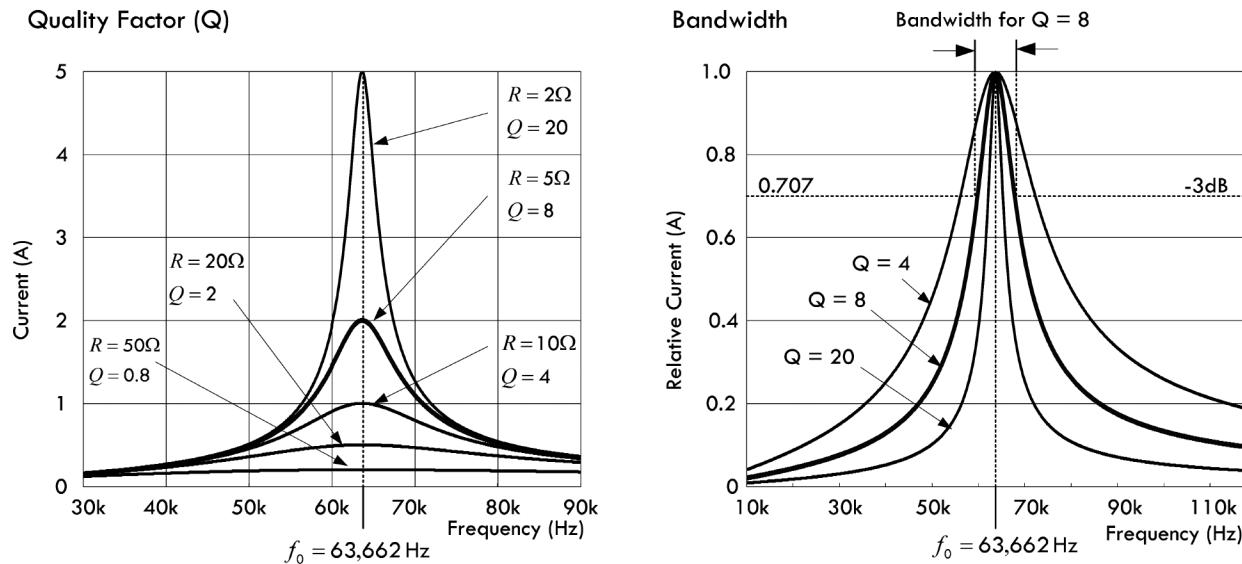

FIGURE 2.179
As mentioned earlier, the ratio of reactance or stored energy to resistance or consumed energy is by definition the quality factor Q . (Q is also referred to as the figure of merit, or multiplying factor.) As it turns out, within a series RLC circuit (where R is internal resistance of the components), the internal resistive losses within the inductor dominate energy consumption at high frequencies. This means the inductor Q largely determines the resonant circuit Q . Since the value of Q is independent of any external load to which the circuit might transfer power, we modify the resonant circuit Q , by calling it the unloaded Q or Q_u of the circuit. See Fig. 2.179.
As you can see, if we increase the resistance, the unloaded Q decreases, giving rise to broad current response curves about resonance, as shown in the graph in Fig. 2.179. With resistances of 10, 20, and 50Ω , the unloaded Q decreases to 4, 2, and 0.8, respectively. Conversely, if the resistance is made smaller, the unloaded Q increases, giving rise to a sharp current response curve about resonance. For example, when the resistance is lowered to 2Ω , the unloaded Q becomes 20.
An alternative way of expressing the sharpness of a series-resonant circuit is using what is called bandwidth. Basically, what we do is take the quality factor graph in Fig. 2.179 and convert it to the bandwidth graph in Fig. 2.179. This involves changing the current axis to a relative current axis and moving the family of curves for varying Q values up so that all have the same peak current. By assuming that the peak current of each curve is the same, the rate of change of current for various values of Q and the associated ratios of reactance to resistance are more easily compared. From the curves, you can see that lower Q circuits pass frequencies over a greater bandwidth of frequencies than circuits with a higher Q . For the purpose of comparing tuned circuits, bandwidth is often defined as the frequency spread between the two frequencies at which the current amplitude decreases to 0.707 or $1/\sqrt{2}$ times the maximum value. Since the power consumed by the resistance R is proportional to the square of the current, the power at these points is half the maximum power at resonance, assuming that R is constant for the calculations. The half-power, or -3-dB , points are marked on the drawing.
For Q values of 10 or greater, the curves shown in Fig. 2.179 are approximately symmetrical. On this assumption, bandwidth (BW) can be easily calculated: